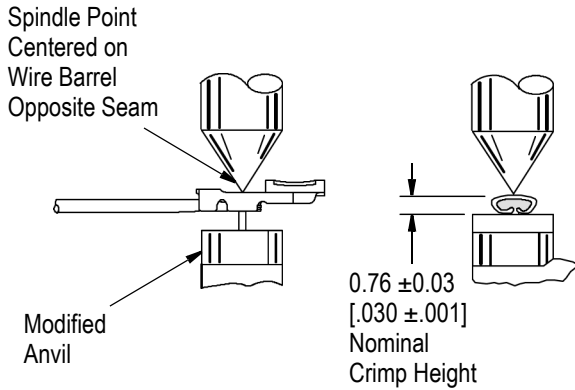

Figure 6
This inspection requires the use of a modified micrometer with a spindle and modified anvil as shown in Figure 6. It is recommended using the Crimp Height Comparator RS-1019-5LP which can be purchased from:
3. Using a crimp height comparator, measure the wire barrel crimp height as shown in Figure 6. If the crimp height conforms to that height, the tool is considered dimensionally correct. If not, the tool must be returned to repair. See Section 5, REPLACEMENT AND REPAIR.